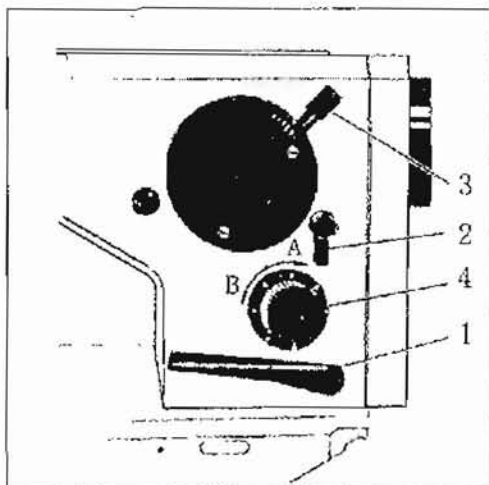
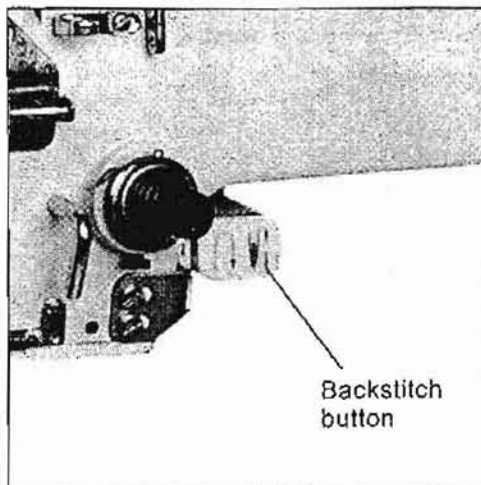

Fig.9
Fig.10
19、 The stitch length and backstitch adjustment (Fig.9, Fig.10)
- 1) The stitch length can be adjusted by turning the knob (4) provided on the column of the machine arm, from 0 to 5mm. By turning it in the sense of the arrow "A", you increase the stitch length. By turning it in the sense of the arrow "B", you decrease it.
- 2) Depress the backstitch hand lever (1) can proceed backstitch.
- 3) Depress the backstitch button as shown in Fig.10 can proceed backstitch.
20、 The stitch width adjustment (Fig.9)